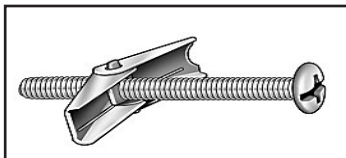

Figure 1 3/16 Toggle-Bolt Anchor
- For each of the marked mounting point locations, determine which points align with a structural framing member. A minimum of two (2) locations should be secured into a framing member.
- For every mounting hole that does not align with a structural framing member, a wall board toggle-bolt anchor must be used. See Figure 1.